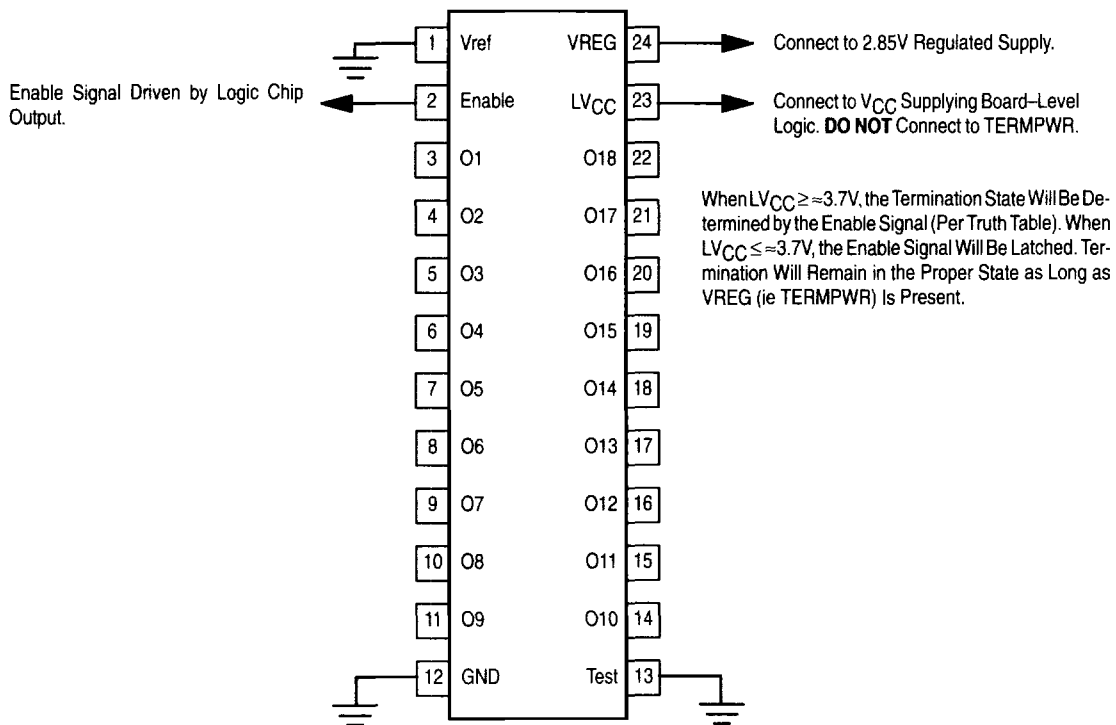
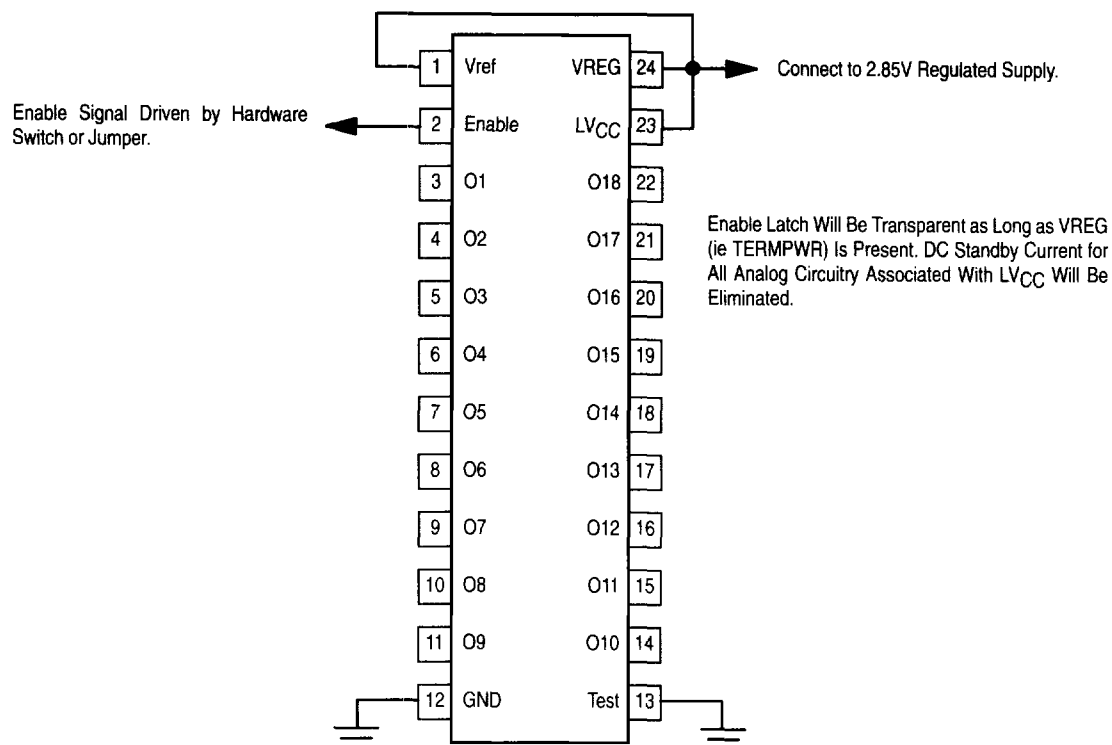

Figure 8. Recommended Connection Scheme to Utilize LV_{CC} Feature
Figure 9. Recommended Connection Scheme to Disable LVCC Feature
Figure 8 shows the recommended connection scheme to utilize the LV_{CC} latch feature. Figure 9 shows the recommended connection scheme for applications in which the LV_{CC} feature is not required – the LV_{CC} and V_{ref} pins are shorted to VREG and the enable path remains permanently transparent.
F. External Logic Driven	With LVCC input connected to the local power supply and Vref connected to GND, the Local-VCC sensing and Enable latching feature will be active. If this feature is not desired, tie LVCC and Vref to VREG (per Figure 9), and the Enable state will follow the Truth Table.